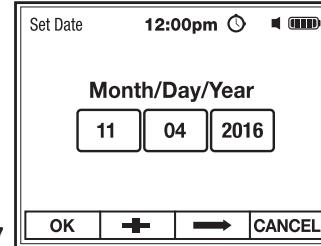

Fig. 27
- Use the **F2** + soft key to set numeric value (highlighted in red), (Fig. 27).
- Use the **F3** ⇆ soft key to select Month, Day or Year (Fig. 27).
- Press the **F1 OK** soft key to save setting and return to Date/Time Menu (Fig. 27).